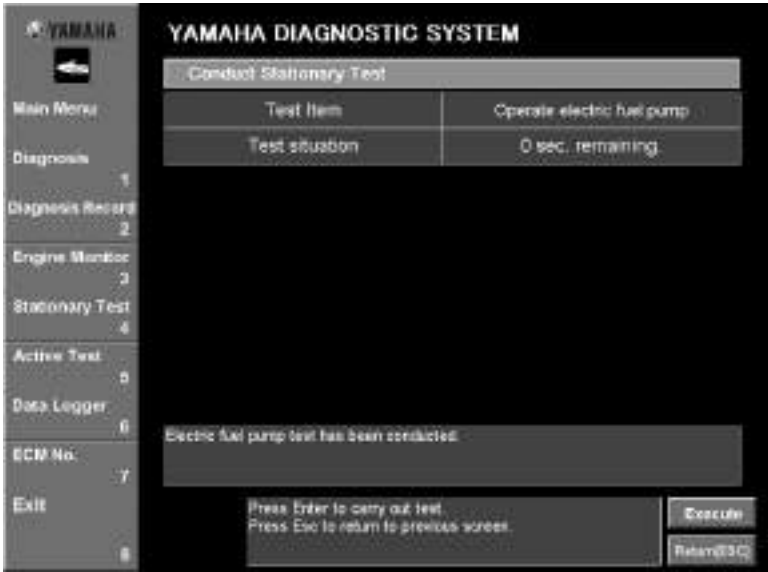

Fig. 54
- 4. To perform the test again, click the **Execute** button or press the Enter key on your keyboard. To perform a different test, click the **Return [ESC]** button or press the Esc key on your keyboard to return to the window where a different test can be selected. (Fig. 54)